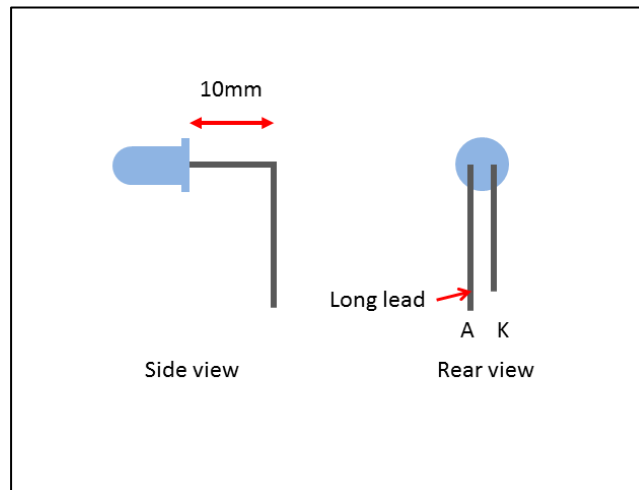
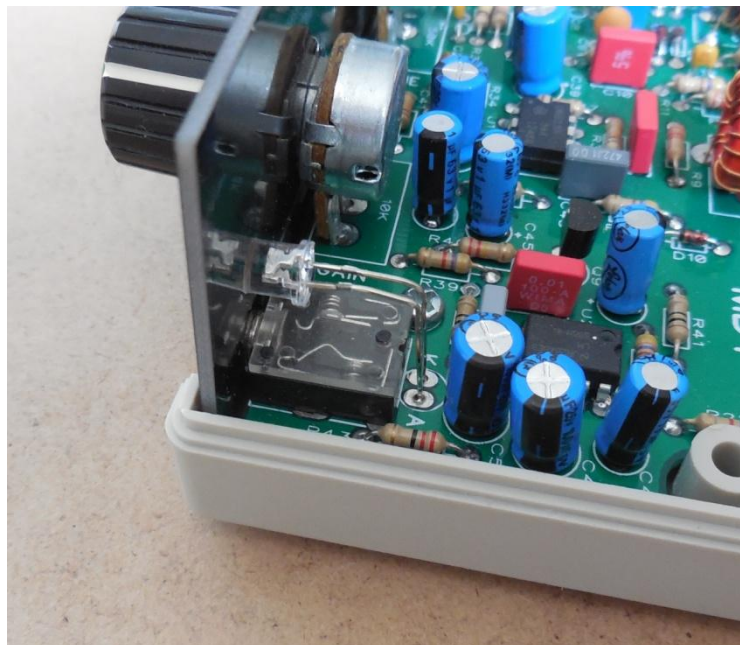

Figure 17 LED lead bending
Figure 18 LED install
The LED leads need to be bent so that it can pass through the hole in the front panel. Figure 17 shows how this done. Once bent insert the LED leads into the PCB just far enough to allow them to be soldered. Ensure the anode(A) and cathode(K) leads go in the correct holes as shown in Figure 18.